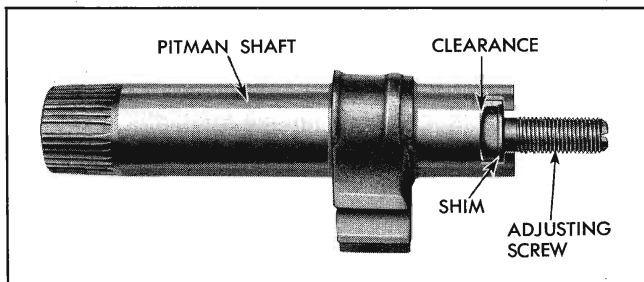

Fig. 9-36. Pitman Shaft and Adjusting Screw
6. Install pitman shaft adjusting screw and selective shim in pitman shaft (Fig. 9-36).